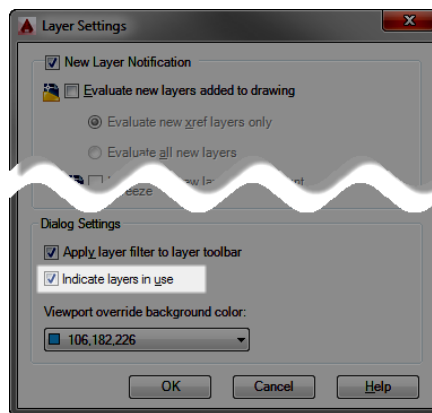

FIGURE 6.31: Enabling the Indicate Layers In Use option from the Layer Settings dialog box
4. In the Dialog Settings group near the bottom, enable the Indicate Layers In Use option (see Figure 6.31), and click OK.